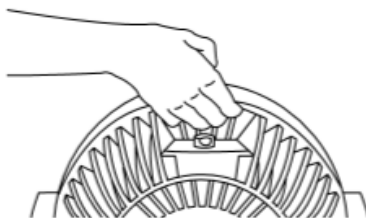

Fig. 5
6. To lift or move the fan, turn off the fan and lift it by the handle that is on the outer edge of the fan (Fig. 5).